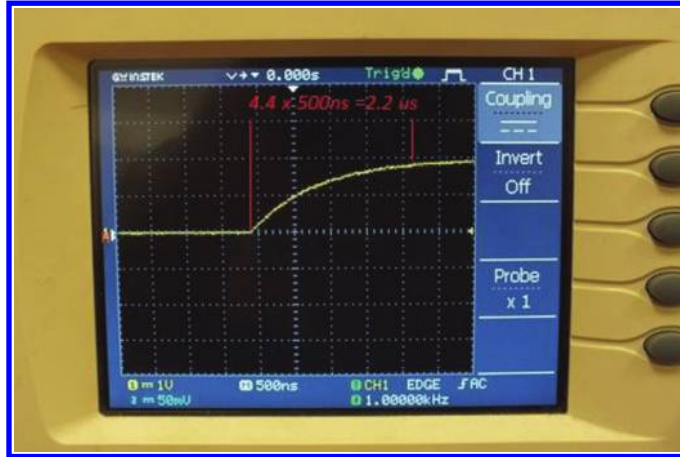
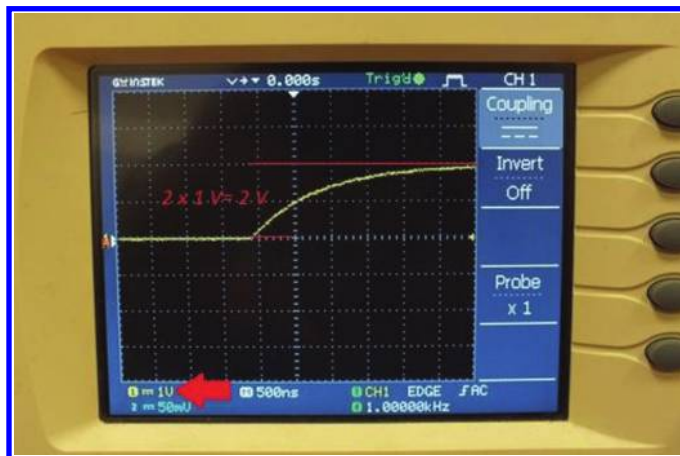

Figure 4.68: You need to decrease the TIME/DIV in order to see the transients.
Figure 4.69: Peak of signal is 2 V. VOLTS/DIV is set to 1 V.
6. After you see the stable waveform on the screen, you can do the measurements that you want. As shown in Fig. 4.68, the settling time of the square waveform is  $2.2 \mu\text{s}$  and as shown in Fig. 4.69, the peak of the waveform is 2 V.